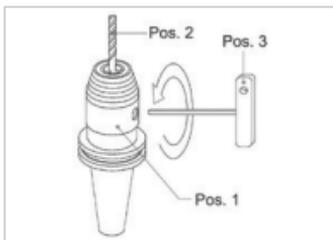

Figure 7: Loosening clamping jaws
1. Loosen the clamping jaws by turning the pinion with **3 to 7** turns wise using the appropriate hex-wrench (see "Figure 7: Loosening clamping jaws").